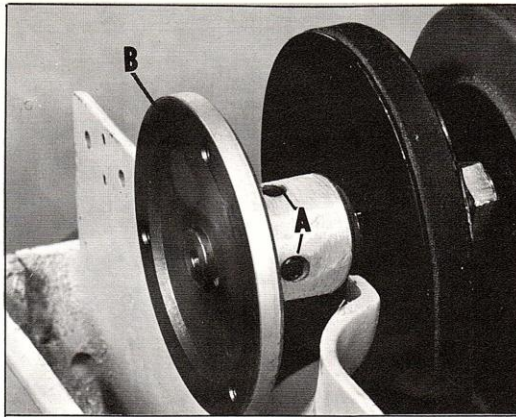

Fig. 22.
- Loosen set screws (A) and flange (B) Fig. 22.